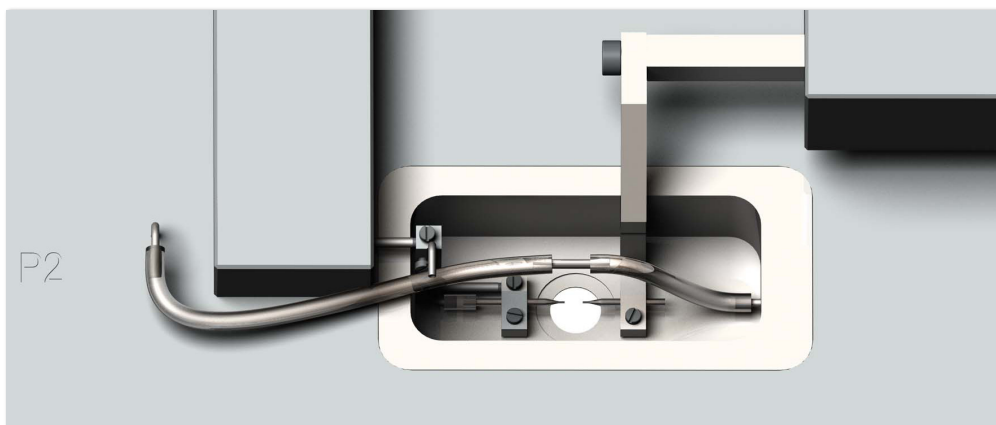

Figure 5.13 Mounting of “Resistance tube shunt”
5. Connect the enclosed “resistance tube shunt” to the stainless steel pipe inside the myograph chamber and the “outlet pressure transducer connection pipe”, as illustrated in fig. 5.13.